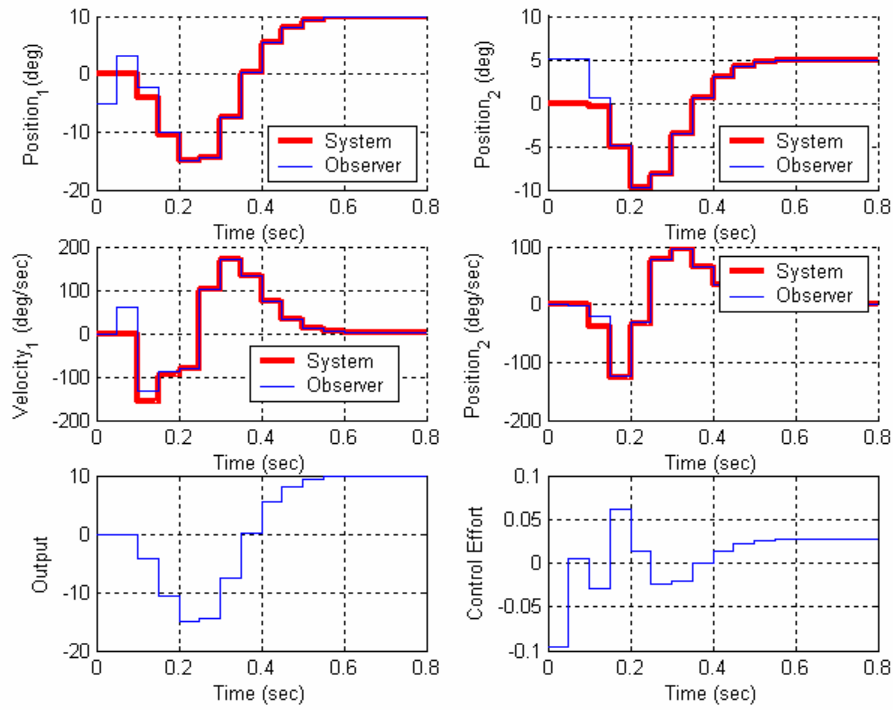

Figure 3: Results for problem 2d.
d) Place all the state feedback poles at 0.2, and the observer poles at 0.06 0.08 0.1 0.12 0.14. You will probably need to use the **place** command to place the observer poles here. Assume the positions of both the first and second disk are available to the observer and the system output is the position of the first disk. The velocities of the disks and the delayed control signals are initially estimated to be zero. The estimated position of the first disk is assumed to be -5 degrees and the estimated position of the second disk is assumed to be 5 degrees. The real system is starts at rest. For a 10 degree step input you should get the graph shown in Figure 3. Turn in your plot.